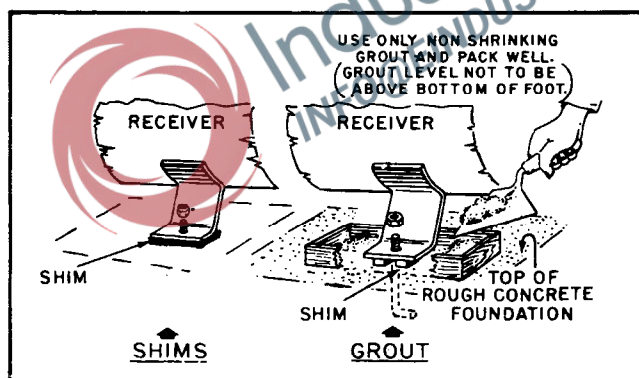

Figure 2-2. Methods of Leveling Unit.
- A. Tighten evenly, and to a moderate torque, the nuts on any three of the four receiver feet. Check the unit for level. If the unit is not level, insert metal shims, as shown in Figure 2-2, under one or two of the feet to obtain level, and retighten the nuts.